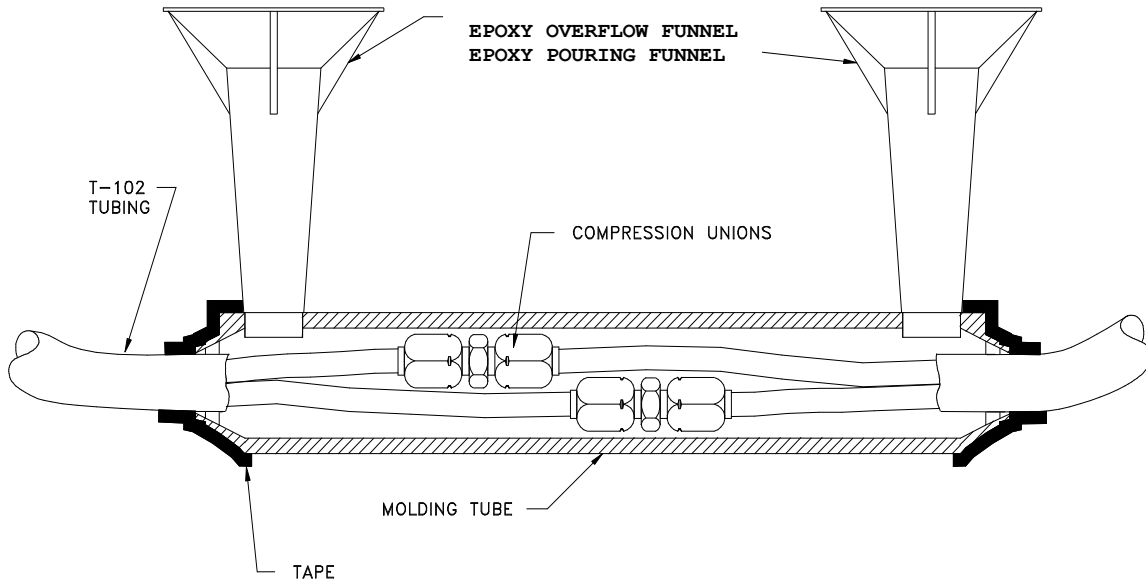

Figure 5 – Splicing Pneumatic Tubing
2. Lay out the tubing and cut the individual tubes so that the unions will be staggered when the tubes are joined (Figure 5). Make sure to cut the tubes as square as possible.
3. Using ONLY the brass compression fittings provided, join the pneumatic lines maintaining the black to black, white to white, colour coding (see Figure 5). **Never re-use any old compression fittings.** Insure that the tubing has bottomed in the fitting. Finger tighten the compression nuts, and then apply 1 full turn with a wrench. **Do not over tighten!**
4. Snap the mold body around the completed splice and install the pouring spouts (Figure 5).